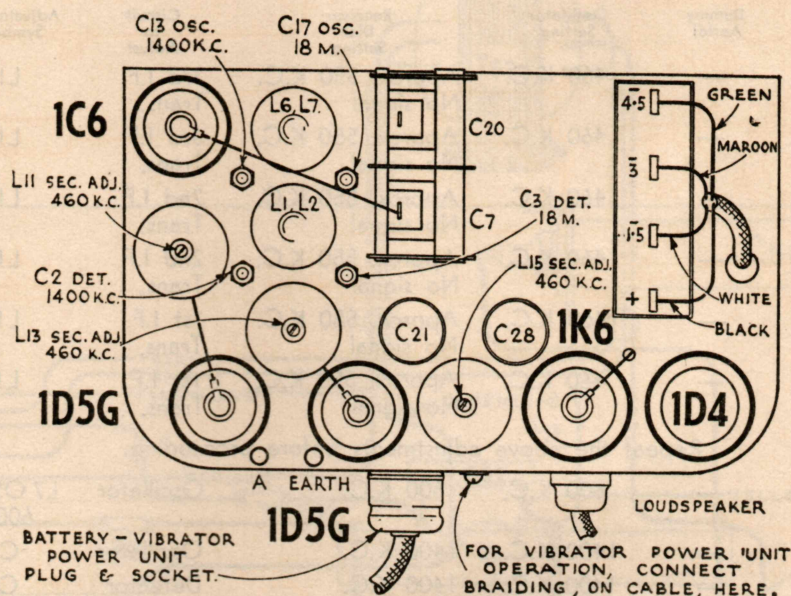

Fig. 6.—Radiola 165 (top view).
(c) Connect the vibrator power unit socket to the plug on the chassis, see fig. 6, and refer to fig. 8 for instructions in connecting the accumulator.
- Connect the battery cable socket to the plug on the chassis, see fig. 6, and refer to the Radiola instruction book for instructions in installing and connecting the "A" and "B" batteries.